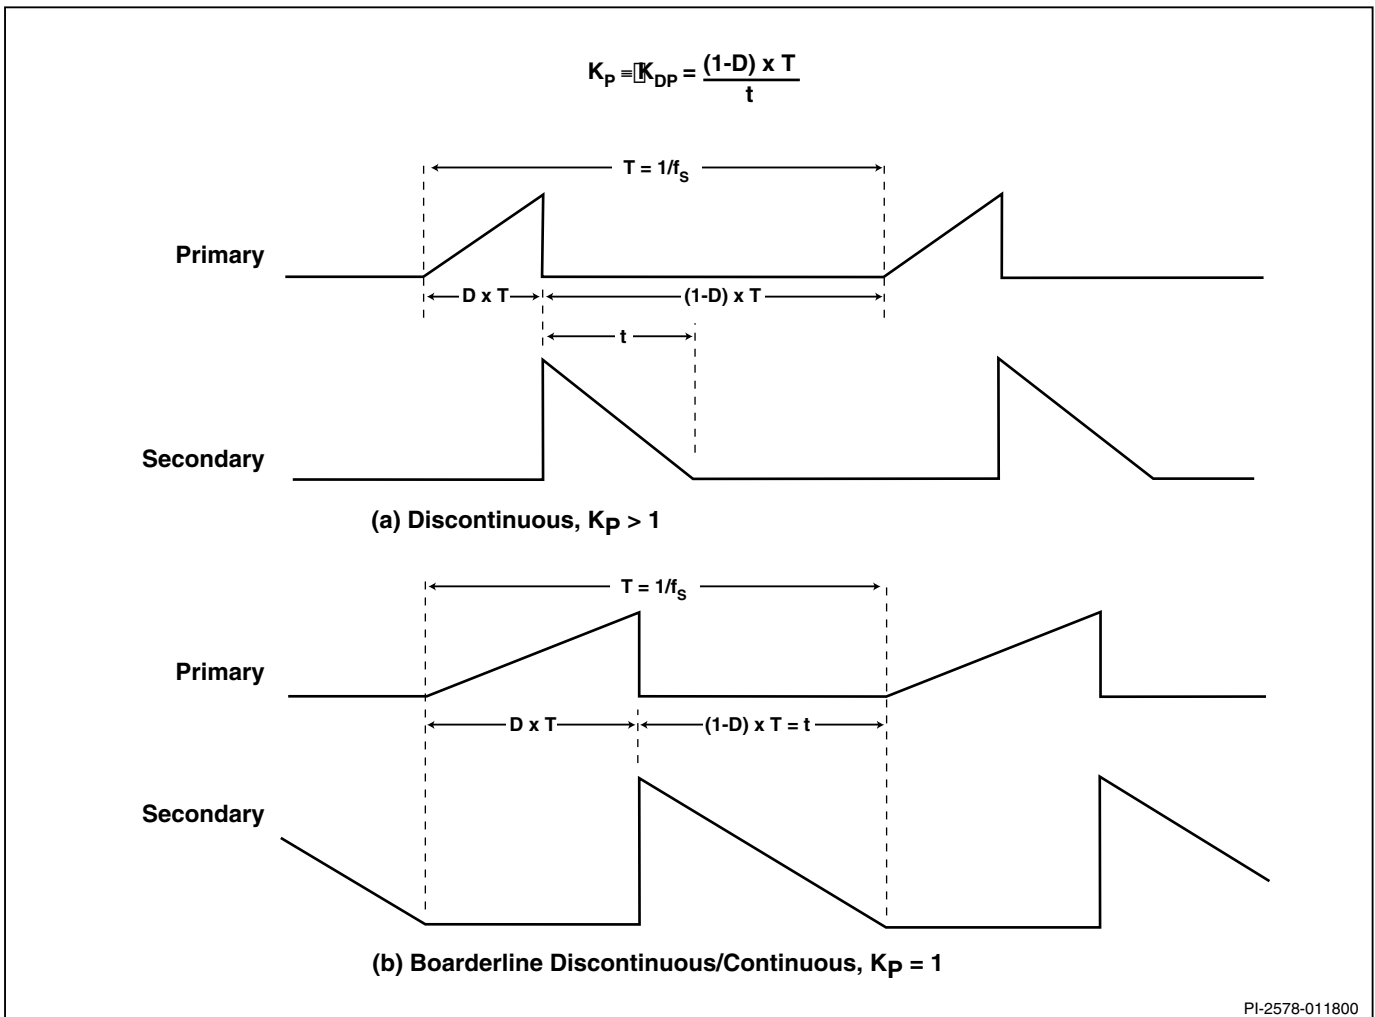

Figure 10. Discontinuous Mode Current Waveform,  $K_p \geq 1$ .
- For  $K_p \geq 1.0$ ,  $K_p \equiv K_{DP}$ , discontinuous mode (see Figure 10)